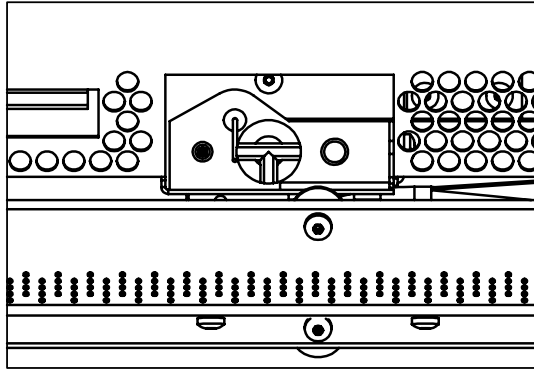

Figure 24. Pilot assembly beside the burner
8. Re-install the burner, ceramic panels, log set and glass door. Also refer to SECONDARY INSTALLATION - LOG SET INSTALLATION. When re-installing the burner, ensure that the burner to pilot hood relationship is similar to what is shown in Figure 24.